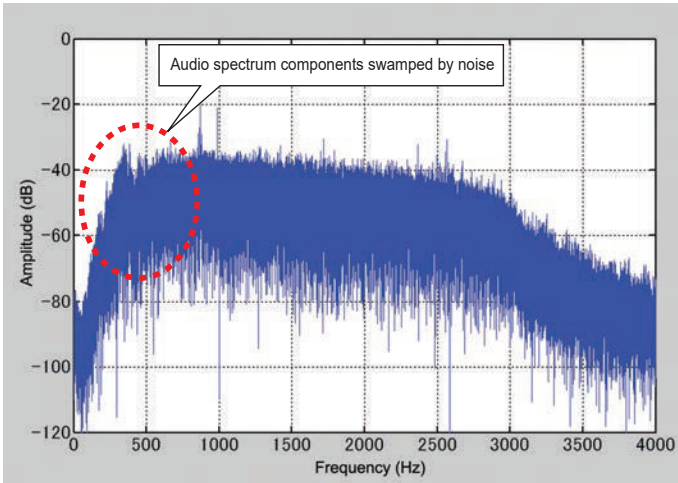
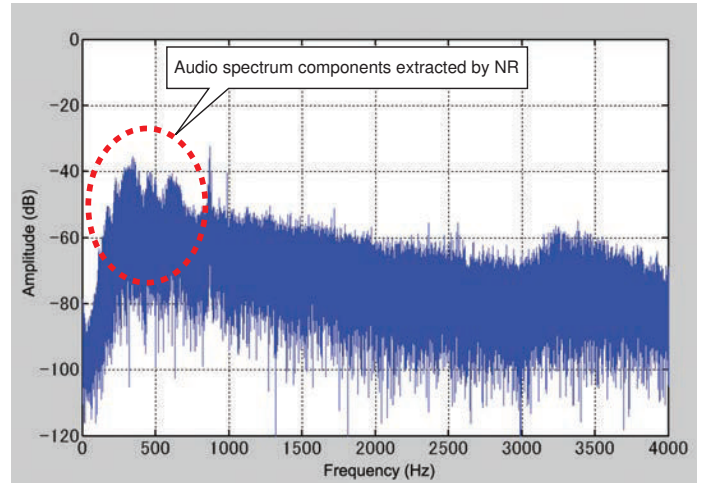

Figure 4-15 NR1 (Spectral Subtraction Method) (Inactive)
Figure 4-16 NR1 (Spectral Subtraction Method) (Active)
Note, however, since the noise estimation process of the spectral subtraction NR1 identifies any steady sound as a noise component, beat interference or a CW signal is also judged as a target of noise reduction. Meanwhile, the conventional noise reduction (based on a line enhancer) functions to emphasize the beat interference or CW signal. Because the new spectral subtraction-based NR1 is not intended for elimination of a CW signal or beat interference, you cannot expect a noticeable effect against those signals. To remove the beat interference or CW signal, use Beat Cancel (BC) instead. The analysis result of the frequency conducted on the receive audio containing an audio signal while NR1 is inactive is shown in Figure 4-15, and the result while NR1 is active is shown in Figure 4-16.